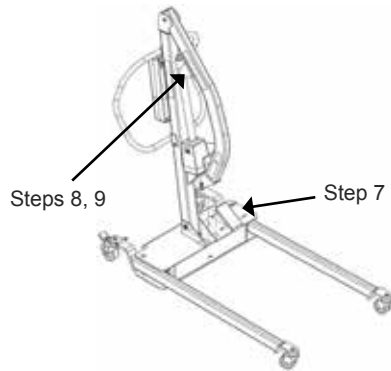

Figure 5
8. Remove the key ring fastener from the boom actuator mounting bracket. Remove the pin (Figure 5).
9. Carefully remove the orange tie from the lifter actuator that is attached to the mast (Figure 5).